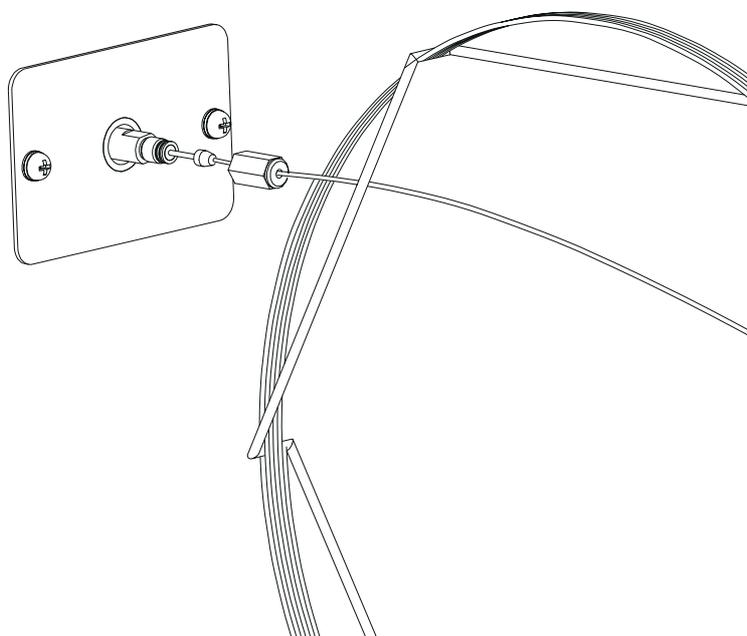

Figure 2.10 Connecting the Capillary Column to the MS
- (2) Insert the end of the capillary column into the column fitting jig (P/N 225-11657-08), so that the capillary column protrudes about 1 cm from the end of the jig as indicated in Figure 2.10 "Connecting the Capillary Column to the MS". Secure it by tightening the nut. Cut the protruding end of capillary column.